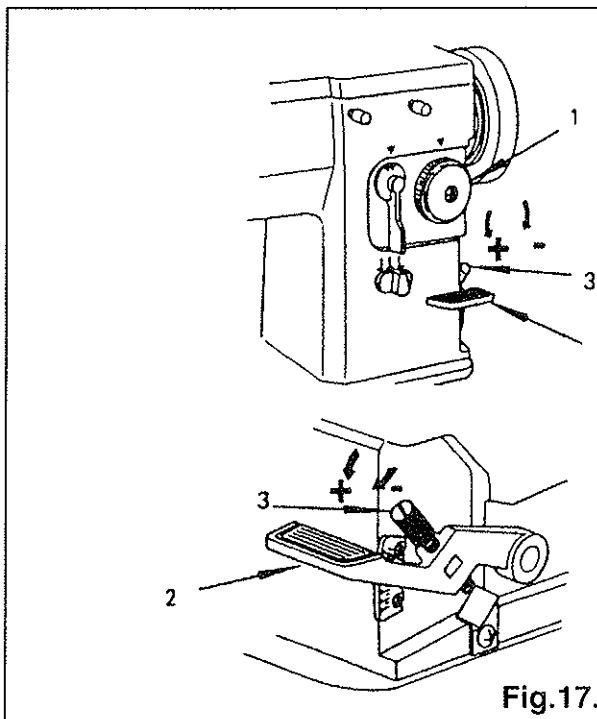

Fig.17.
To regulate the stitch length, turn feed regulating dial (1) Fig.17, toward left or right as required.
Push lever (2),Fig.17,down for reverse feed and release for forward feed.
To regulate the reverse stitch length, turn thumb screw (3)Fig.17, toward left or right as required.